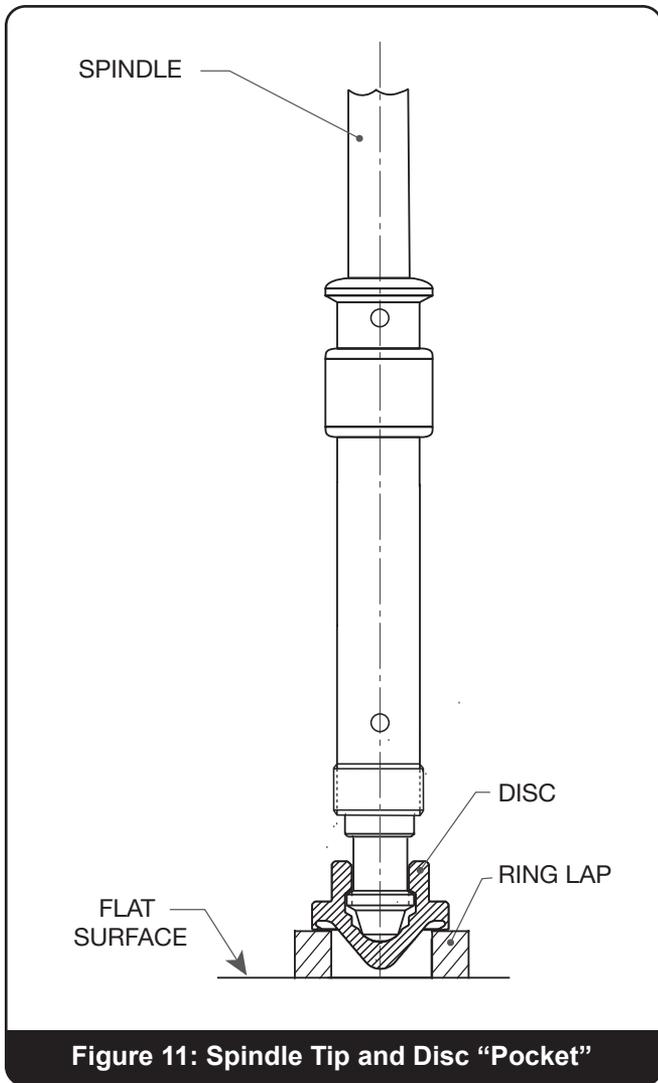

Figure 11: Spindle Tip and Disc "Pocket"
- out. Place a ring lap on a table, or similar flat surface, and wipe the exposed surface of the lap clean. Insert the disc nose into a ring lap, so that the seat contacts the lap surface. Oscillate the spindle using 360-degree oscillations for approximately 15 seconds, then check the spindle tip and disc "pocket" to determine progress. (See Figure 11.)